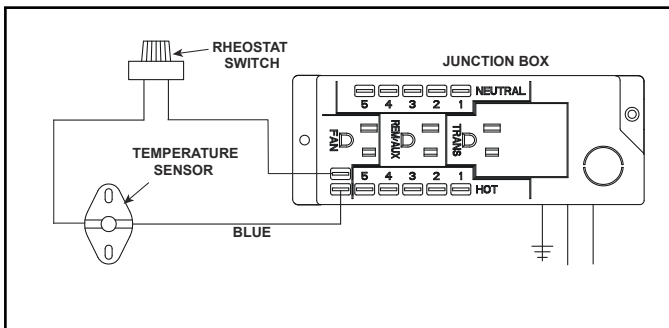

Figure 8.5 Detail of Fan Wiring with Rheostat
- Connect temperature sensor switch wire and rheostat switch to junction box as shown in Figure 8.5.